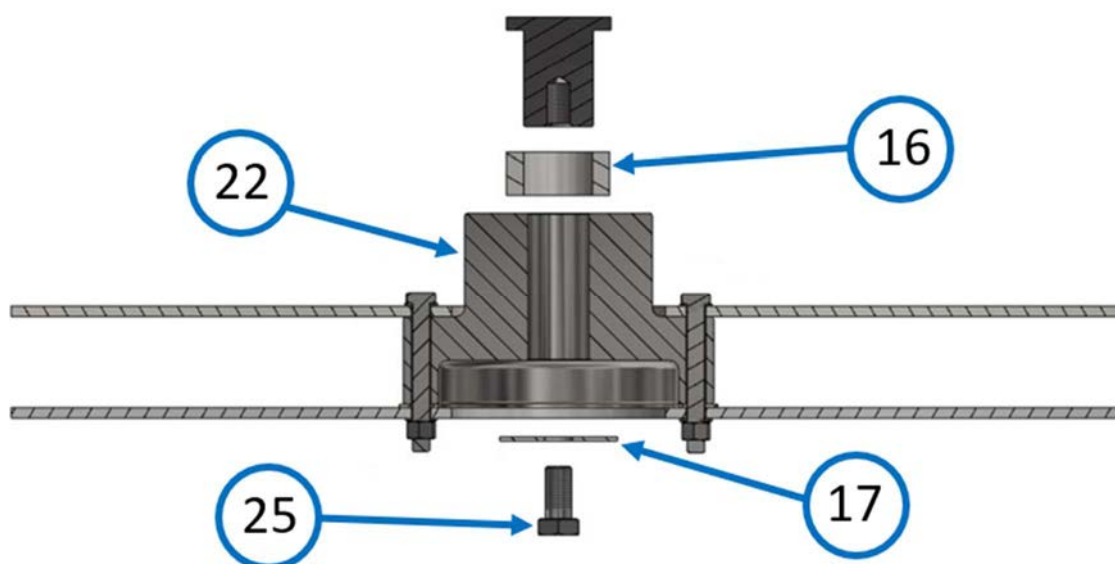
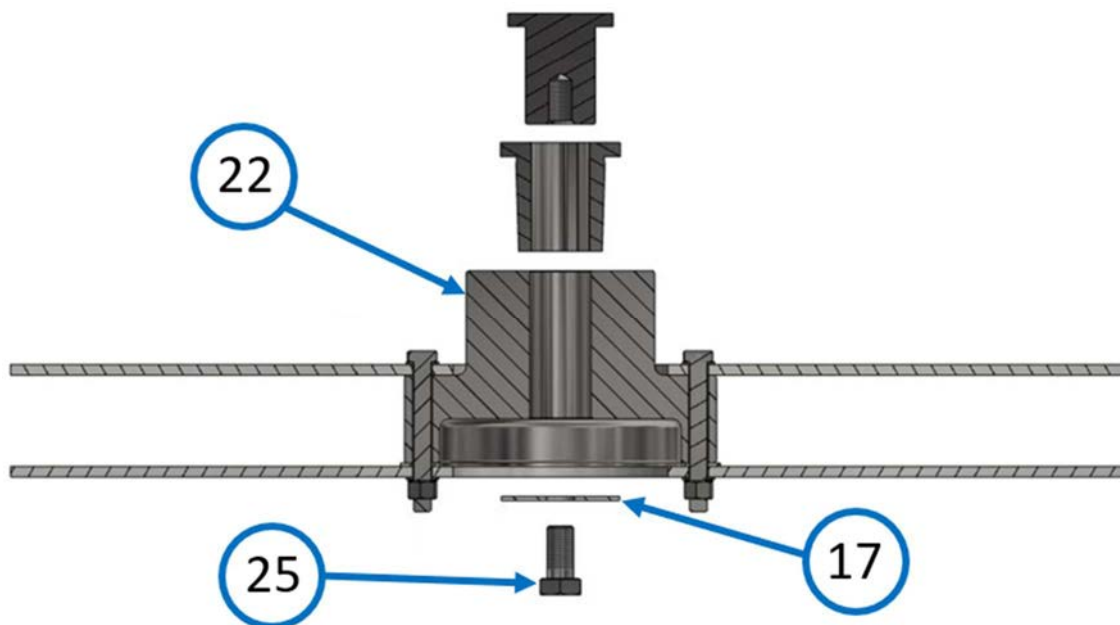

**Figure 2.15: installation of hub with internal hub boss and cylindrical bore**
Figure 2.16: installation of hub with internal hub boss and bushing
COFIMCO can supply two different types of hub with internal hub boss: with cylindrical bore (see figure 2.15) or with cylindrical bore for bush installation (see figure 2.16).
- 1) **Hub with internal hub boss with cylindrical bore:** anchored directly to the shaft that transmits the motion; for the procedure please refer to figure 2.15.
Put the washer [17] on the flange and tighten the bolt [25] to the shaft, as shown in figure 2.15.
- 2) **Hub with internal hub boss and bushing:** to fasten it refers to figure 2.16.